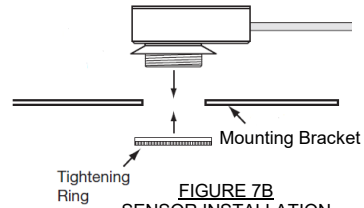

FIGURE 7B
1. Position the sensor box (without the tightening ring attached) on top of the bracket and place the threaded shaft through the hole in the bracket. Fasten the tightening ring onto the threads until sensor box is secure. See Fig. 7B.